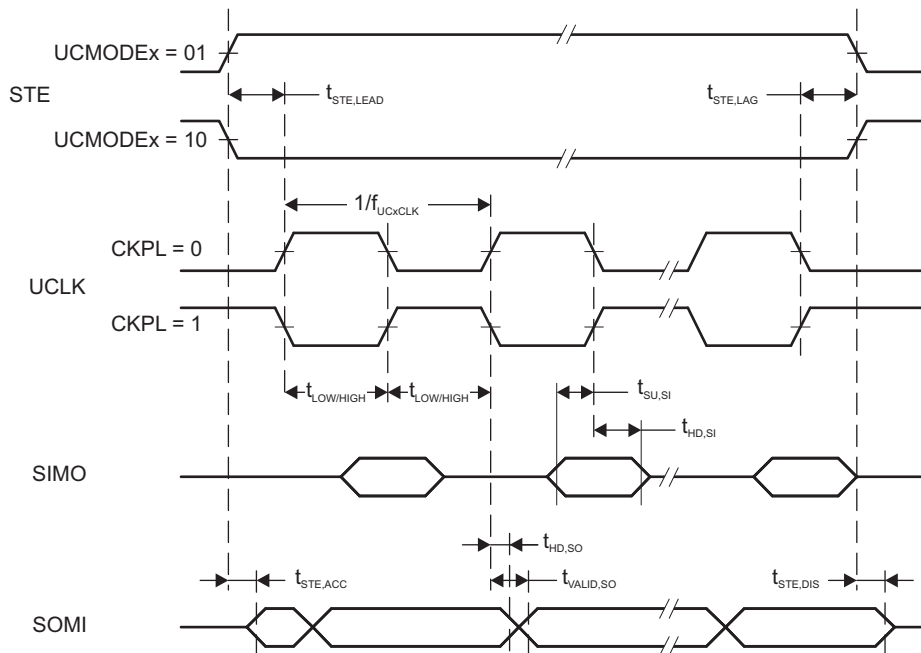
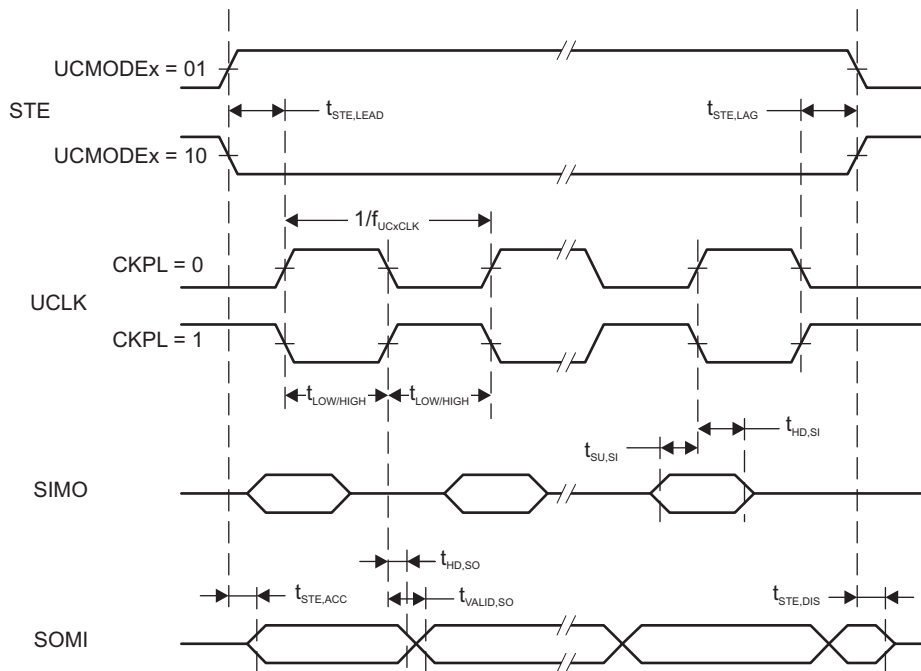

Figure 5-16. SPI Slave Mode, CKPH = 0
Figure 5-17. SPI Slave Mode, CKPH = 1
- (2) Specifies the time to drive the next valid data to the SOMI output after the output changing UCLK clock edge. See the timing diagrams in Figure 5-16 and Figure 5-17.
- (3) Specifies how long data on the SOMI output is valid after the output changing UCLK clock edge. See the timing diagrams in Figure 5-16 and Figure 5-17.